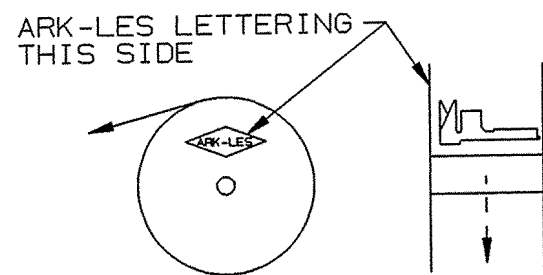

FIGURE 2
8. FOR REVERSE REELING ADD SUFFIX "R" TO PART NUMBER. (i.e. 3500H 109AR) SEE FIGURE 2.